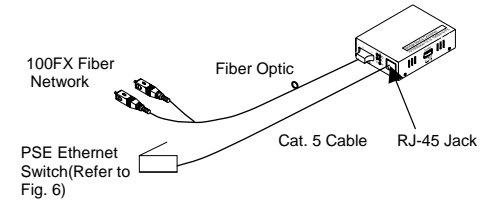

Fig. 2 Connection among PSE Ethernet Switch, Fiber and TP Cables
- ⇒ Install the TP media cable to the IEEE 802.3af PSE device or PoE injector (See Fig. 2)